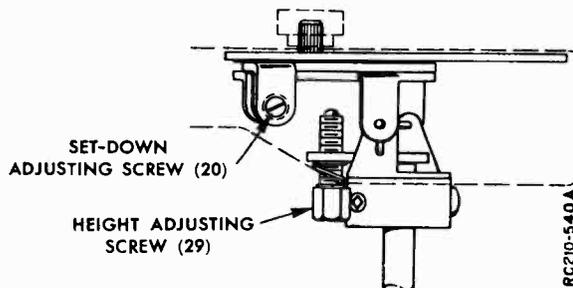

Figure 10. Arm Detail Showing Adjustments.
set-down point is governed by the set-down adjusting screw (20). (See figure 10.) The shoulder on the set-down arm (129A) holds the pickup arm at the set-down point until it is pushed back by the edge of the control plate engaging the set-down arm stud (129B). The pickup arm is then free and moves down toward the record starting groove.
Adjustment of the set-down point, for either 7-inch, 10-inch, or 12-inch records, is made by adjustment of the set-down adjusting screw (20), see figure 10. Screw (20) is accessible through hole in right side of pickup arm. When turning the record size selector knob (16) be sure to turn it all the way to avoid making the set-down adjustment at the wrong point, resulting in
With the record changer out of change cycle and the pickup arm clear of the turntable, adjust the lift adjusting screw (29) so that the needle rests approximately $\frac{3}{8}$ " above the top of the changer pan. Turning screw (29) in raises the pickup arm; turning it out lowers the arm. See Figure 10.